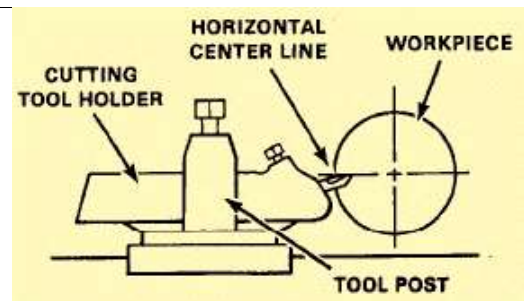

Figure 7-46. Positioning tool bit for facing.
**Facing Work in a Chuck:** Facing is machining the ends and shoulders of a piece of stock smooth, usually performed with the work held in a chuck or collet. Allow the workpiece to extend a distance no more than 1 1/2 times the work diameter from the chuck jaws, and use finishing speeds and feeds calculated using the largest diameter of the workpiece. The tool bit may be fed from the outer edge to the center or from the center to the outer edge. This method also eliminates the problem of feeding the tool bit into the solid center portion of the workpiece to get a cut started. Avoid excessive tool holder and tool bit overhang when setting up the facing operation. Set the tool bit exactly on center to avoid leaving a center nub on the workpiece (Figure 7-46).